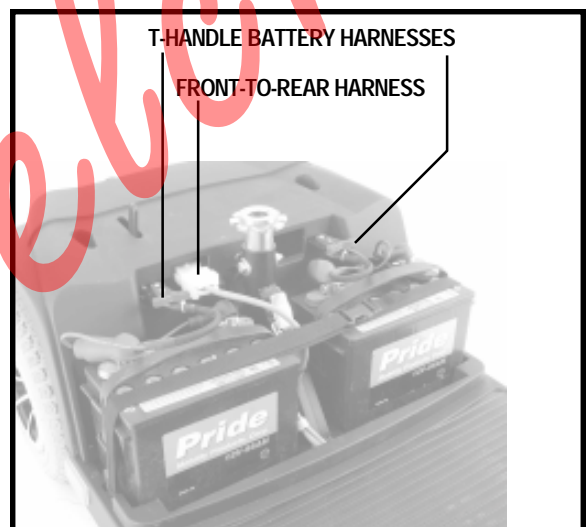

Figure 19. Harness Connections
5. Unplug both T-handle battery harnesses. See figure 19.
6. Unplug the front-to-rear harness. See figure 19.